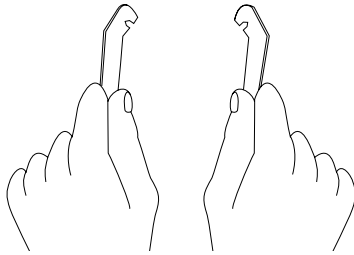

Figure 8-34 Orientation of the Wrenches
- Grasp the wrenches as shown in Figure 8-34. The orientation of the wrenches is important.